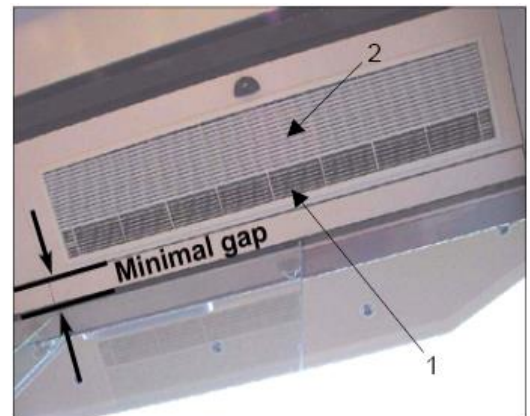

Fig 1
- The air discharge (see 1, Fig 1) section of the recessed grille nearest the doorway and the air inlet section (see 2, Fig 1) furthest from the doorway.